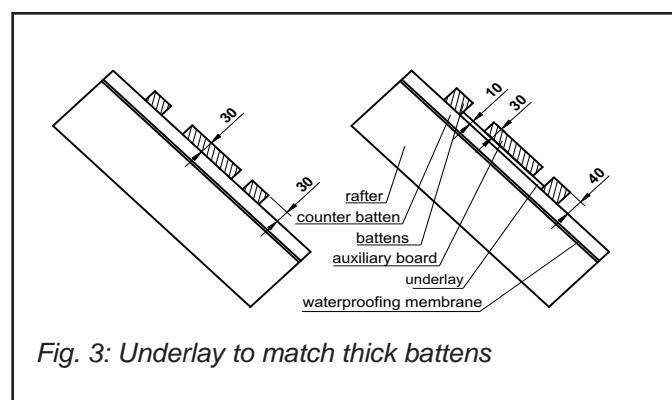

Fig. 3: Underlay to match thick battens
- The height of the auxiliary board from the counter batten shall be equal to the batten thickness which can be reached by underlying the auxiliary board (see Fig. 3).